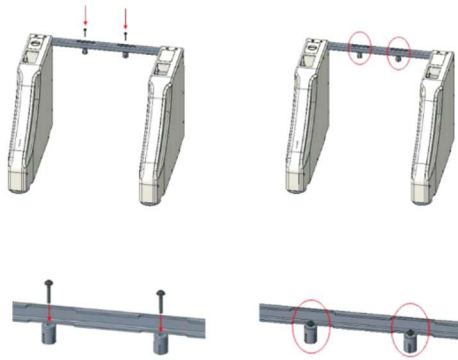
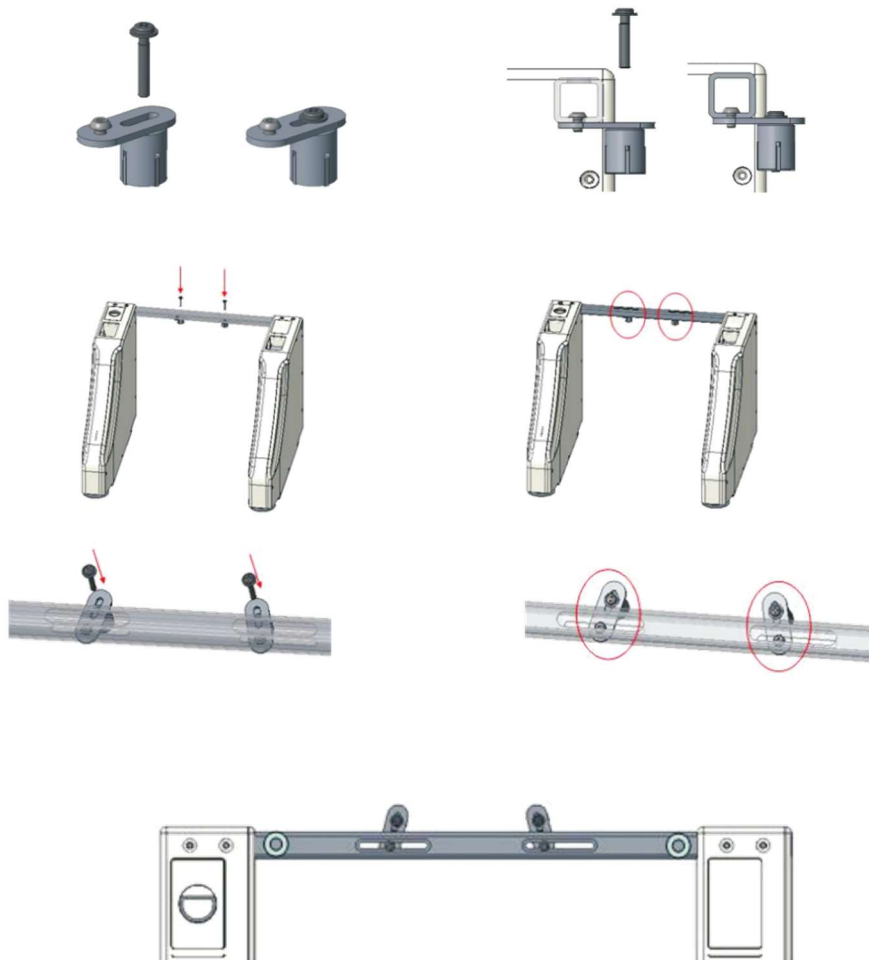

Figure 10 Equipment is fixed with the toilet by bolts
Figure 11 Fix the equipment with the toilet after adjusted the distance by an extension part
- 4) for those poor body balance users, the crossbeam of the equipment main part A must be fixed with the toilet by bolts (as shown in Figure 10, Figure 11).